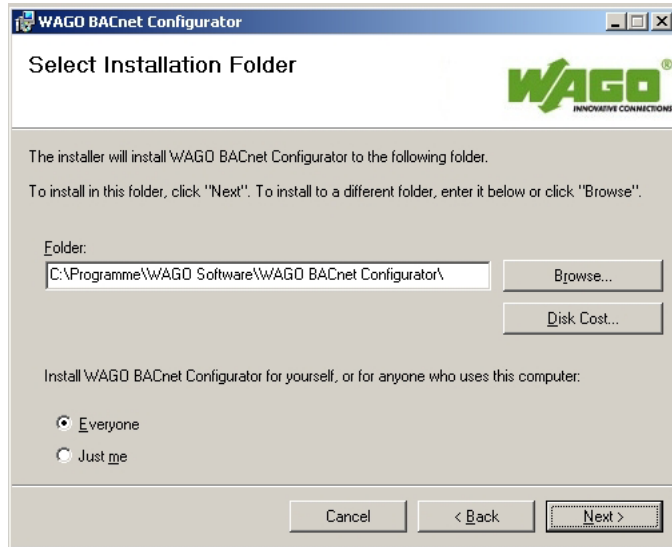

Fig. 2-3: Choose the installation location
4. Enter the path under which you would like to install the Configurator and choose whether the software is to be installed for every user ("Everyone") or only for yourself ("Just me") (see Fig. 2-3).